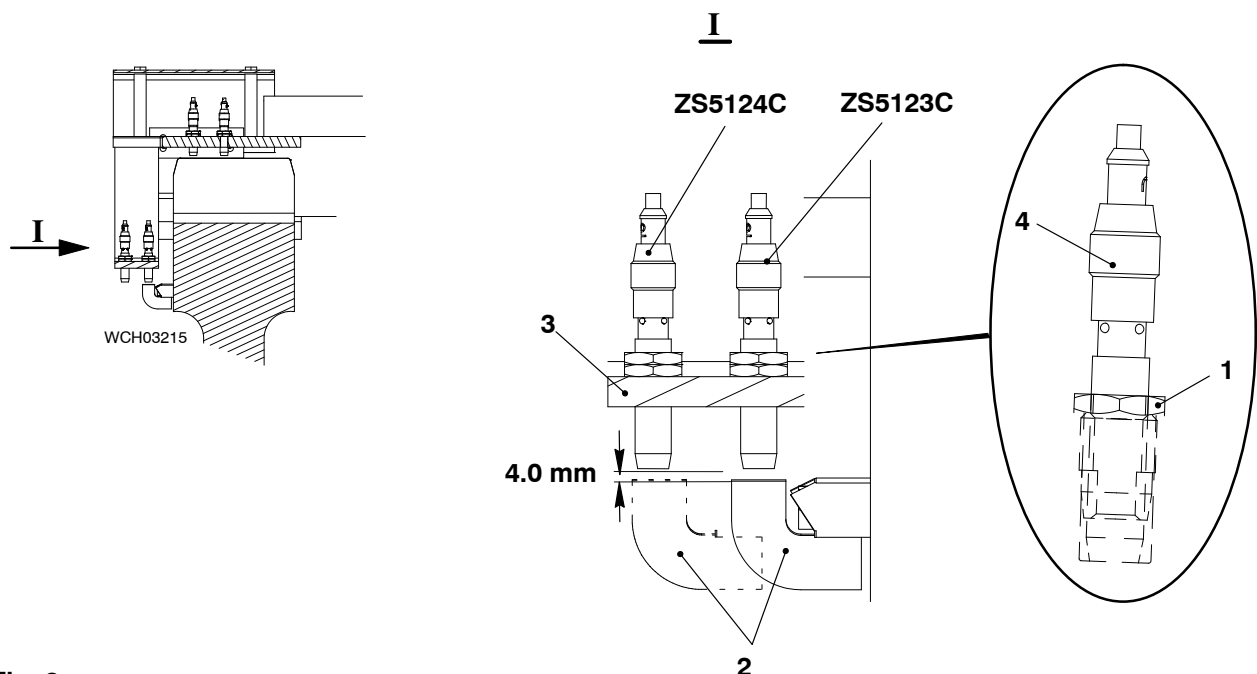

Fig. 3
- 2) Operate the turning gear to get the applicable crank angle mark (2, Fig. 3) on the flywheel wheel opposite the unserviceable proximity sensor.
- 4) Loosen the locknut (1).
- 5) Remove the proximity sensor (4) from the holder (3).
- 6) Attach the new proximity sensor to the holder (3).
- 7) Make sure that the proximity sensor (4) touches the applicable crank angle mark (2).
- 8) Loosen the proximity sensor (4) until you get a clearance of 4.0 mm between the crank angle mark and the bottom face of the proximity sensor.
- 9) Carefully tighten the locknut (1) with your fingers.
- 10) Connect the electrical connection to the proximity sensor (4). Refer to the mark made before to identify the correct connection.